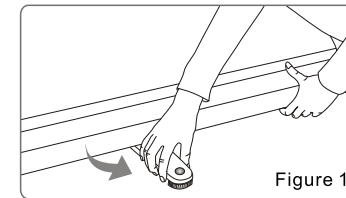

Figure 1
1. Put the screen on the ground, in a proper position, facing the projector. Turn the support foot (5) out untill they are perpendicular to the screen casing (1). (Figure 1)